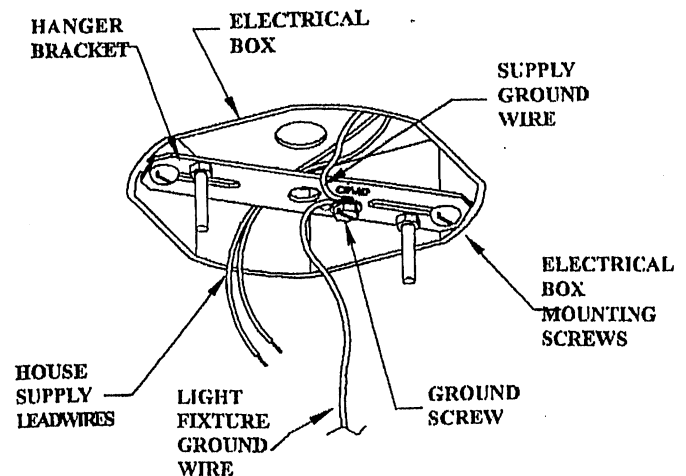

FIGURE 2
4. Using the two screws supplied with the outlet box, mount the hanger bracket to the outlet box, as shown in Figure 2.
NOTE: Refer to Figures 2 and 3 for the steps below.